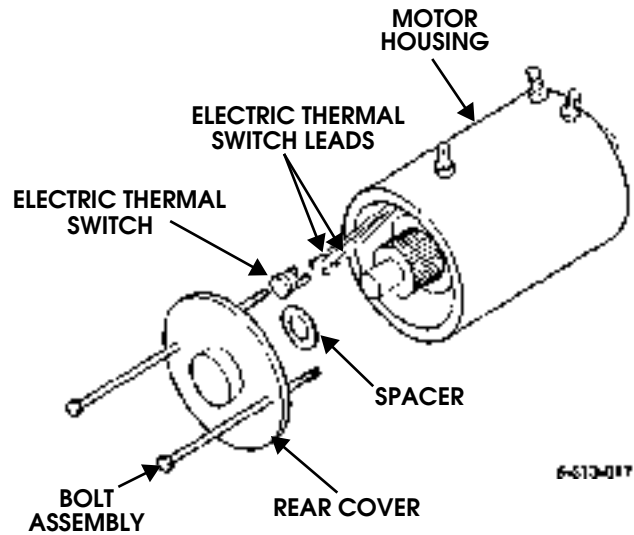

Figure 9-206: Motor and Gasket
- Coat head of electric thermal switch with lubricant and connect to two electric thermal switch leads (Figure 9-206).